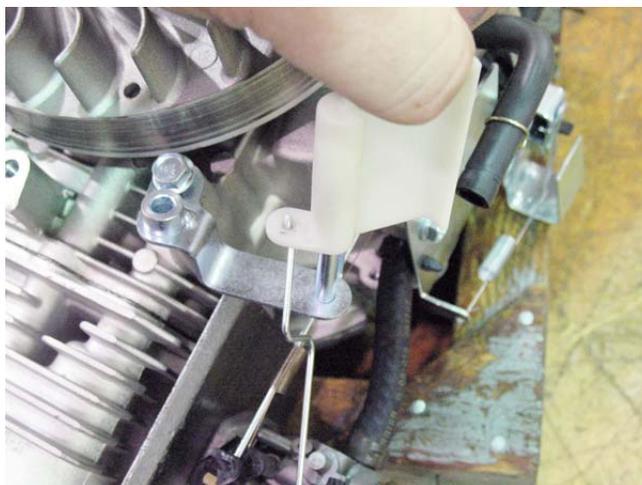

Figure 4.33
3. Slide the air vane off of the bracket. See Figure 4.33.